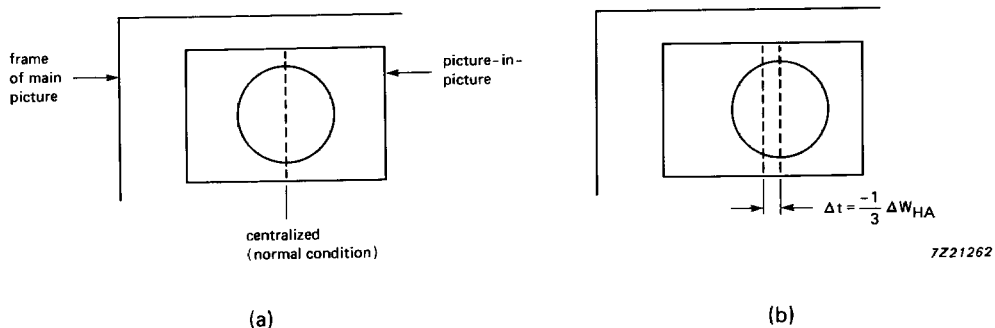

Fig. 4 PIP position; (a) $ACL = 10,9$ MHz, (b) $\Delta t = -1/3 \Delta W_{HA}$.
1. Pulse width HA (typ. 250 ns): the first sample of a line occurs after approximately 124 periods of ACL (counted on the negative edge of HA). The internal horizontal acquisition off-set value is chosen in such a way that $ACL = 10,9$ MHz, when this condition is satisfied the acquired picture is centralized within the PIP. The off-set value is dependent upon the acquisition frequency, 50 Hz or 60 Hz (124 ACL periods of 50 Hz and 108 ACL periods of 60 Hz). If the pulse width of HA increases, the acquired picture will shift to the left within the PIP picture (see Fig. 4).